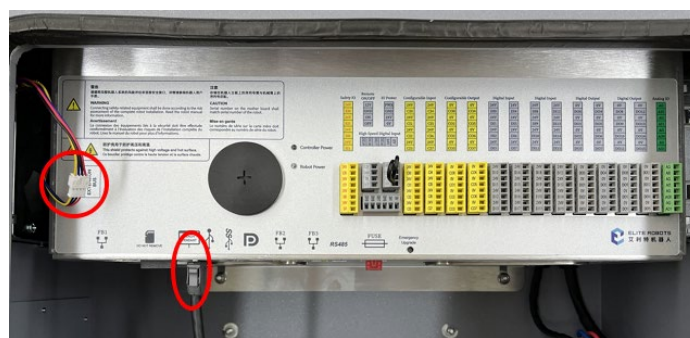

Figure 3-38 Install sheet metal, nuts, and reconnect cables
- Load the mounting sheet metal module back into the box, install 4 anti-loosen nuts, connect the fan cable, and connect the teach pendant cable, as shown in Figure 3-38: